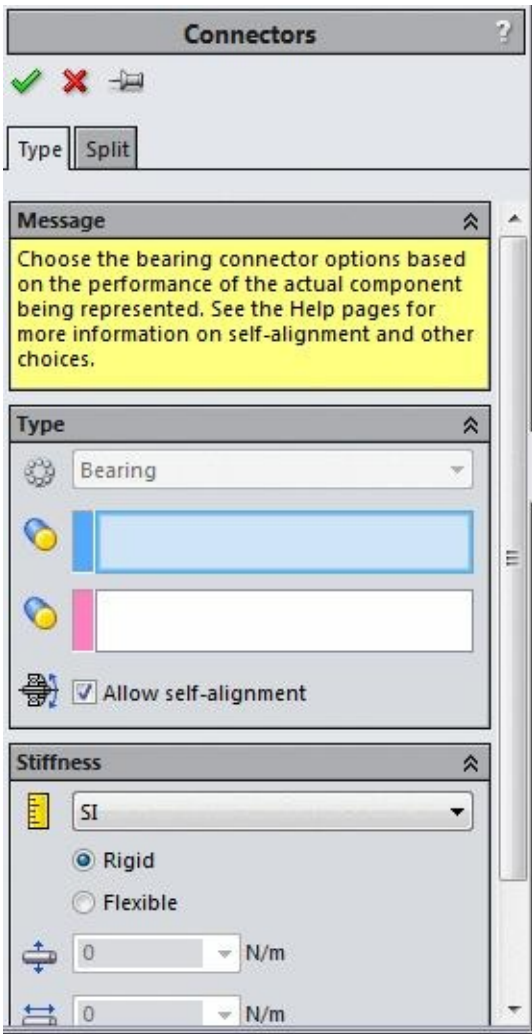

Figure-79. Connectors PropertyManager with bearing option
- Click on the **Bearing** button from the **Connections Advisor** drop-down. The **Connectors PropertyManager** will be displayed with the options related to bearing connection; refer to Figure-79.